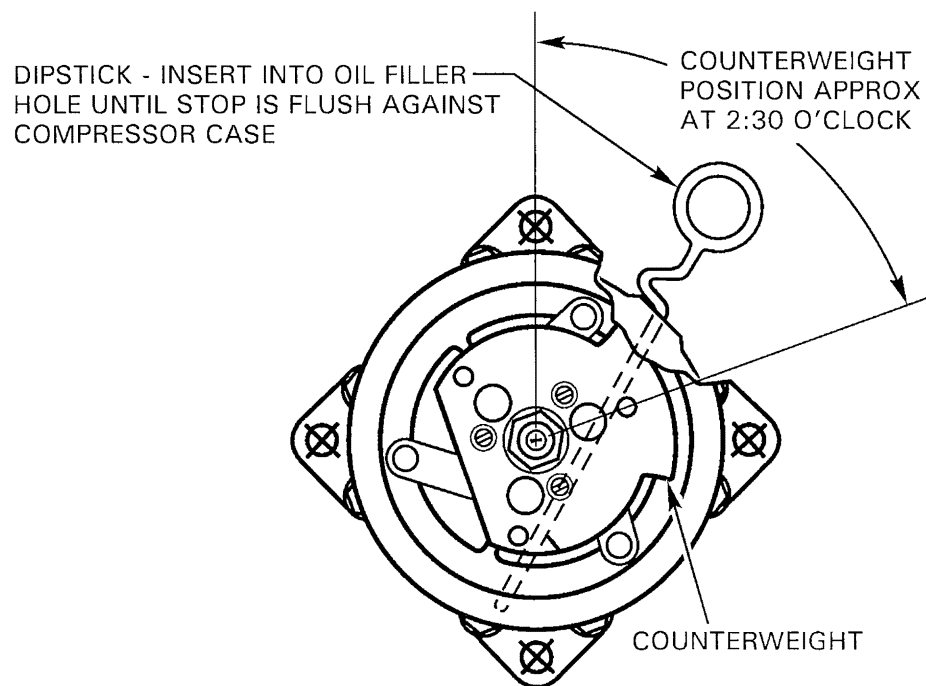

FIGURE 11-5 COMPRESSOR OIL FILL
- b. Turn compressor shaft clockwise until clutch plate counterweight is positioned per Figure 11-5.
- c. Insert Airpro P/N 90-3028 or equivalent dipstick per Figure 11-5, and take oil level reading.